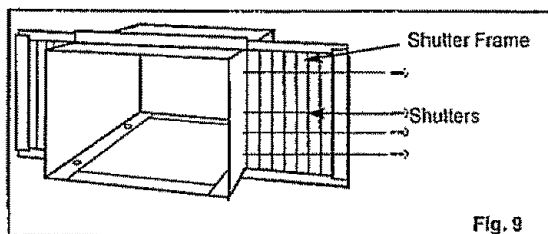

Fig. 9
- Slide the shutters into the top and bottom channels as shown in Fig. 9. The shutters are identified (on frame) as left & right. Attach the shutters to the cabinet using four 1/4" screws on each side.